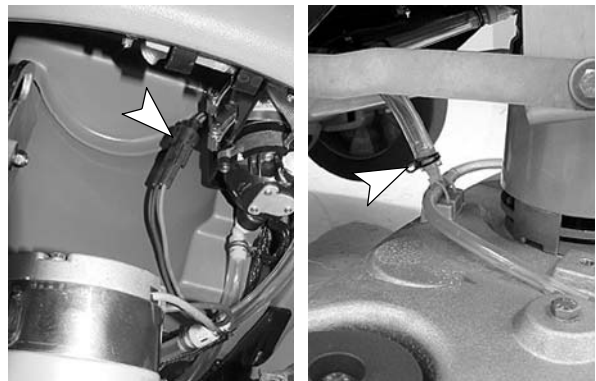

FIG. 61
2. Unplug the brush motor wire connector and disconnect the solution feed hose (Figure 61).